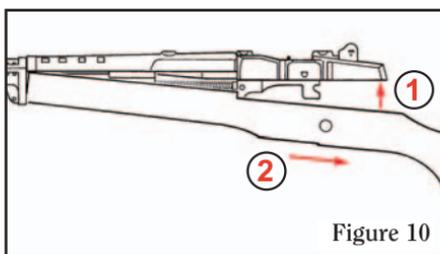

Figure 10
5. Remove barrel/receiver assembly from stock by lifting the rear of the assembly out of the stock and then pulling the stock rearward out of engagement with the gas block. (See Fig. 10.)